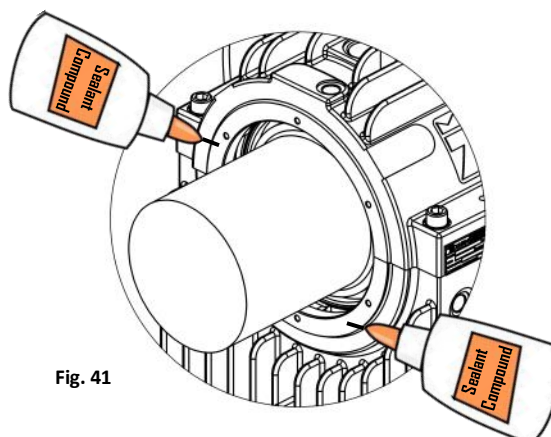

Fig. 41
- The face of bearing housing on a seal seat region (Fig. 41)